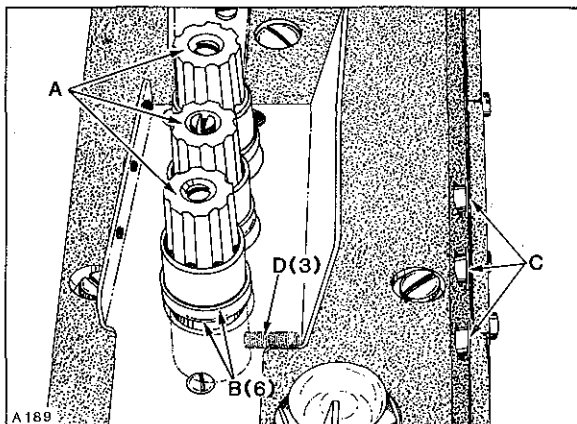

Fig.23
Needle thread tension assemblies (A, Fig. 23) are set correctly when the tension discs (B) start to release as the presser foot is raised to within 1/8 inch (3.2mm) of the end of its travel and completely released when presser foot has reached its highest position.